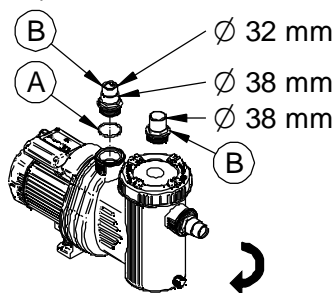

Fig. 23
1. Position the O-rings (Fig. 23, # A) on the rubber holder (Fig. 23, # B).
2. Screw the two rubber holders in (Fig. 23) on the *inlet* and *outlet* side of the *pump*.